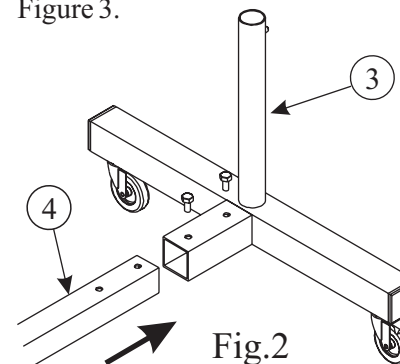
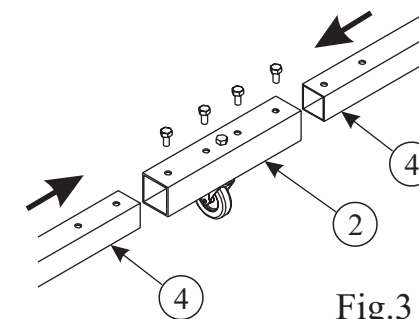

Fig.2
Fig.3
- 2** Remove the bolts from the Braces (part 4) and then insert the braces into the End Assemblies (part 3) as shown in Figure 2. Secure with the bolts previously removed from the braces. Repeat this for the Centre Joint (part 2) as shown in Figure 3.